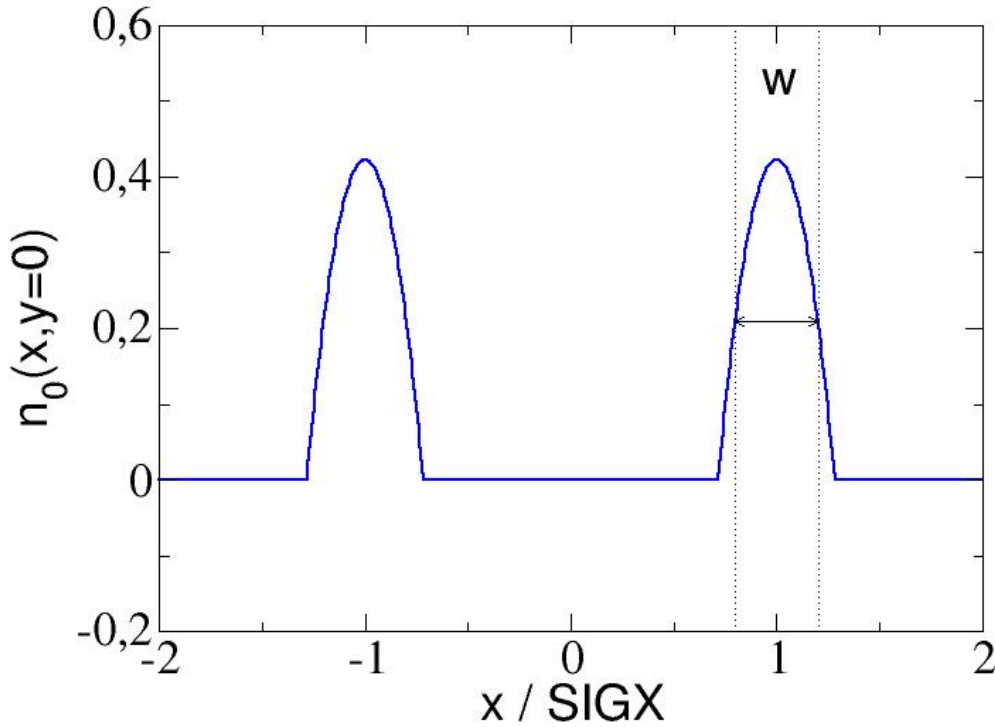

Figure 10.3: Hollow parabolic shape of radial density for beam-beam lens.
- **BBSHAPE=3**: hollow-parabolic shape (see fig.10.3). **SIGX**, **SIGY** are the distances from the centre to the maximum of the parabolic density profile in horizontal and vertical directions. Only circular opposite beam is possible, *i.e.* in the calculations $SIGX' = SIGY' = (SIGX + SIGY) / 2$ is used, if **SIGX** and **SIGY** have different values. **WIDTH** denotes the full width at half maximum of the parabolic density